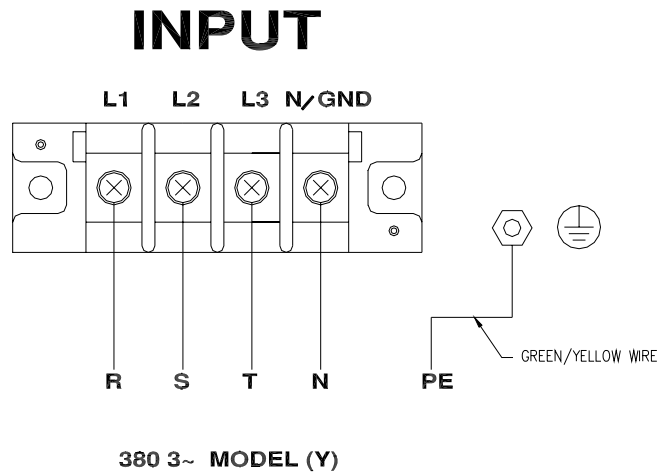

Figure 2-2 6460/6490/6560/6590 380 3~Y Input Connection
4. Connect the ac lines to the terminal blocks of the AC source as Figure 2-2 shows.